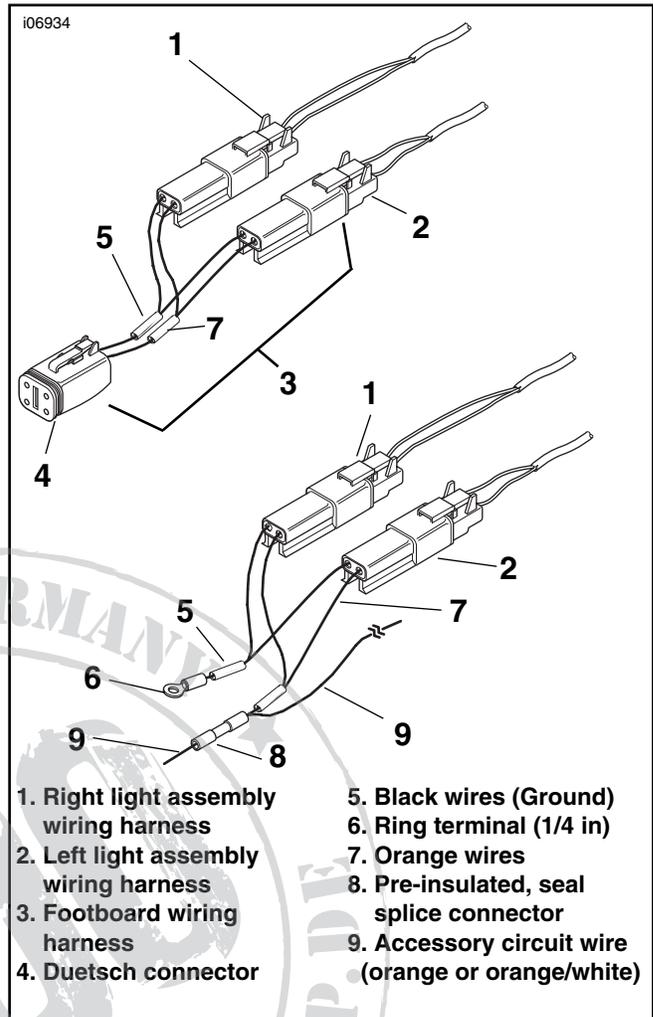
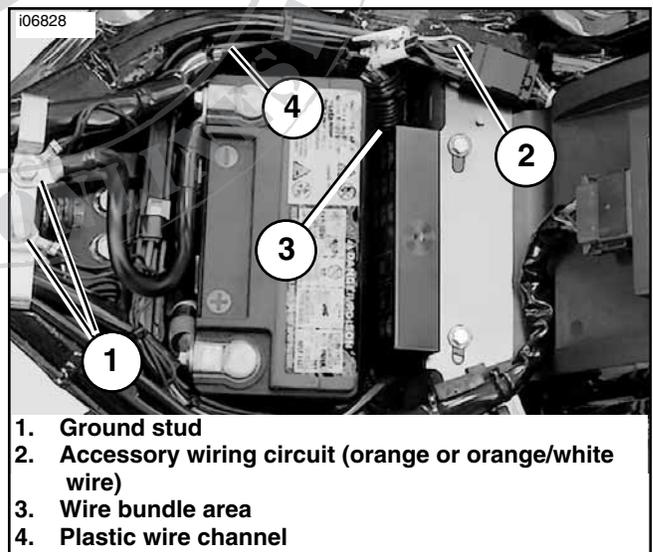

Figure 3. Electrical Connections (All Softail Models)
Figure 4. Electrical Connections Locations
1. See Figure 3. Plug the right (1) and left (2) light assembly wiring harnesses into the footboard wiring harness (3) supplied in the kit.
2. Remove the Duetsch connector (4) according to the instructions in the applicable Service Manual.
3. Cut the existing terminal from the black wire (5), as close to the connector as possible. Strip a 3/8 in. (10 mm) section of insulation from the end of the black wire and install a ring terminal (6) supplied in the kit.
4. See Figure 4. Connect the ring terminal to a ground stud (1) located under the seat.
- See Figure 3. With the Deutsch connector disassembled, strip insulation from the orange wire (or orange/white) and install a pre-insulated, seal splice connector (8) supplied in the kit.